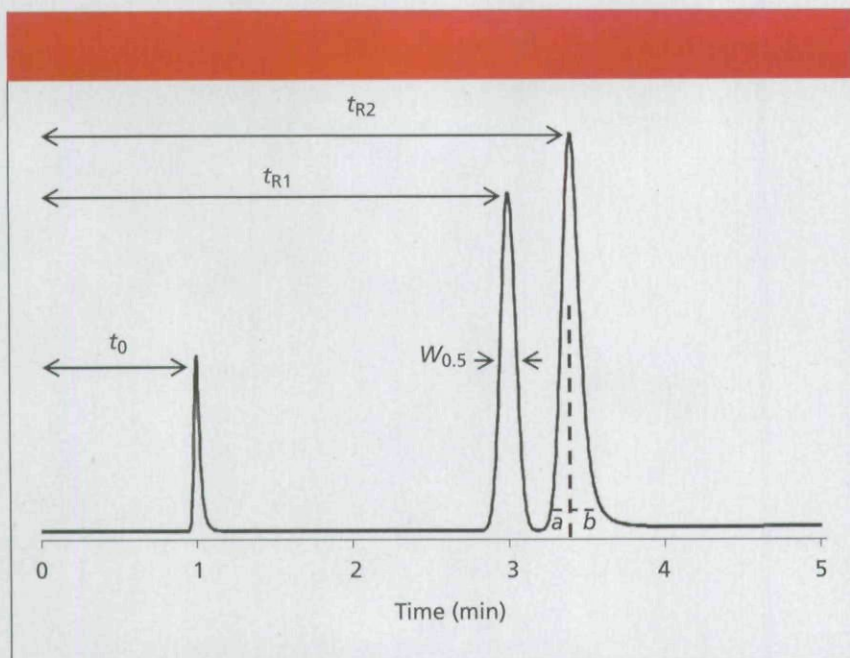

Figure 1: Simulated chromatogram to illustrate calculation of retention factor, tailing factor, resolution, and column plate number.
where t_R and t_0 are the retention time and column dead time, respectively. These are defined as illustrated in Figure 1. The dead time usually is determined either by injecting an unretained substance or identifying the first baseline disturbance in the chromatogram, often referred to as the solvent peak. Retention time is measured from the time of injection to the peak maximum. Ideally, you would like all peaks to be eluted in $2 <$
$k < 10$ for the best chromatographic performance, but $1 < k < 20$ is acceptable, especially for more complex samples. With $k < 2$, peaks can be poorly resolved from the unretained material at t_0 in most chromatograms, and retention is more sensitive to small changes in the mobile phase composition than when $k > 2$. The FDA (2) recommends $k > 2$. For Figure 1, $t_0 = 1.00$ min, $t_{R1} = 3.00$ min, and $t_{R2} = 3.40$ min, so $k_1 = (3.00 - 1.00)/1.00 = 2.00$ and $k_2 = 2.4$.
where a and b are defined as shown in Figure 1. A vertical line is dropped from the peak apex and the front and back half-width of a peak at 5% of the peak height are measured. The FDA (2) recommends $T_f < 2$, but you will have better looking chromatograms, improved quantification, and fewer problems separating minor peaks from major ones if you target $T_f \leq 1.5$. For peak 2 of Figure 1, $a = 0.10$ min and $b = 0.16$ min, so $T_f = (0.10 + 0.16)/(2 \times 0.10) = 1.30$.
where t_1 and t_2 are the retention times of peak 1 and peak 2, respectively, and w_1 and w_2 are the baseline peak widths measured between tangents drawn to the sides of the peak. Determination of the baseline peak width is inconvenient, especially if the baseline is noisy or drifting and if the peaks are not fully separated. Most workers prefer measuring the peak width at half the peak height, $w_{0.5}$, as illustrated in Figure 1, because it is easier and less error-prone. Now equation 3 becomes
For Figure 1, $w_{0.5,1} = 0.112$ min and $w_{0.5,2} = 0.126$ min, so $R_s = (3.40 - 3.00) / 1.7 \times 0.5(0.112 + 0.126) = 1.98$.